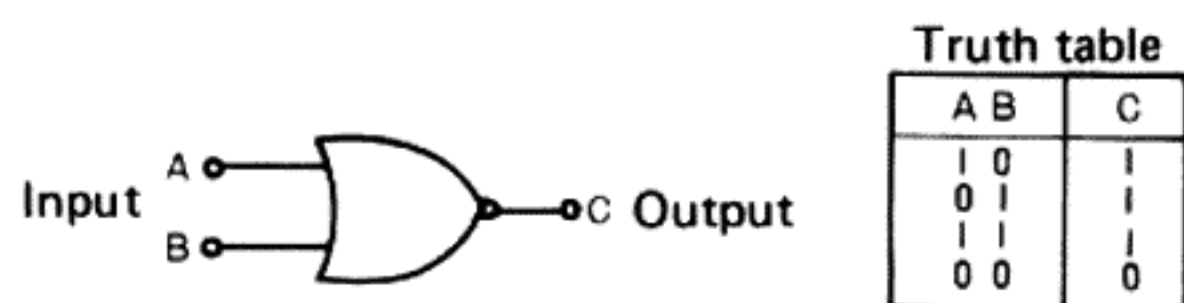
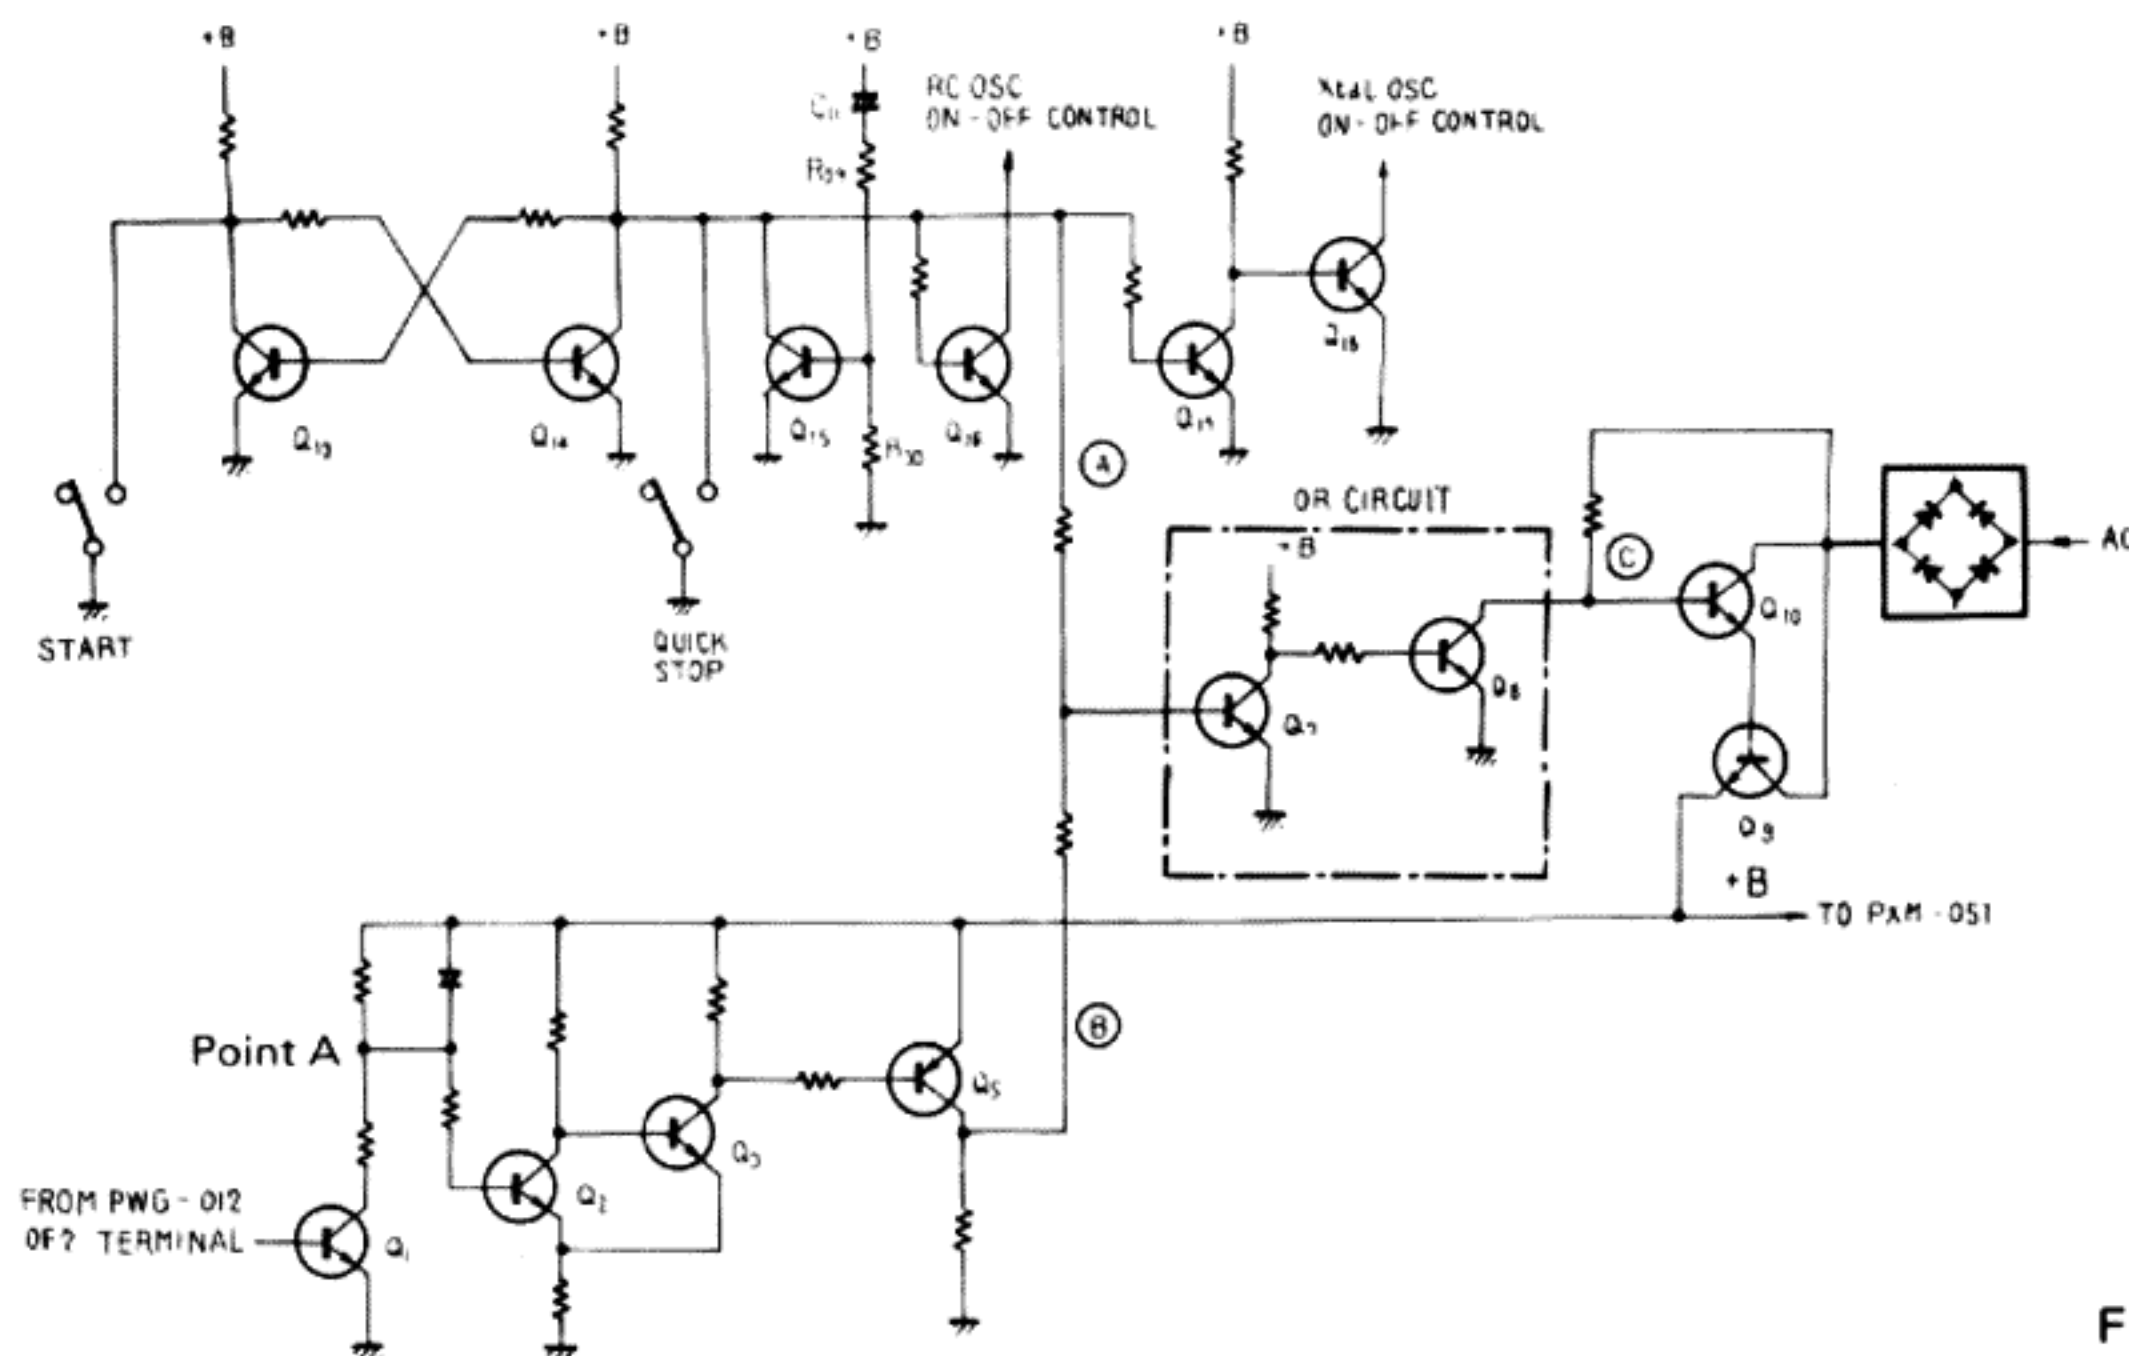

Fig. 4
Fig. 5
3.2 START-STOP CONTROL SECTION (See Figs. 5, 6) (PWR-012)
4. Q_7, Q_8 constitute a logic circuit (OR circuit). This OR circuit is represented by the symbols shown in Fig. 4 below. The relationship between its input and output is shown in truth table.
(A)(B)(C) in Fig. 5 are ABC in Fig. 4.